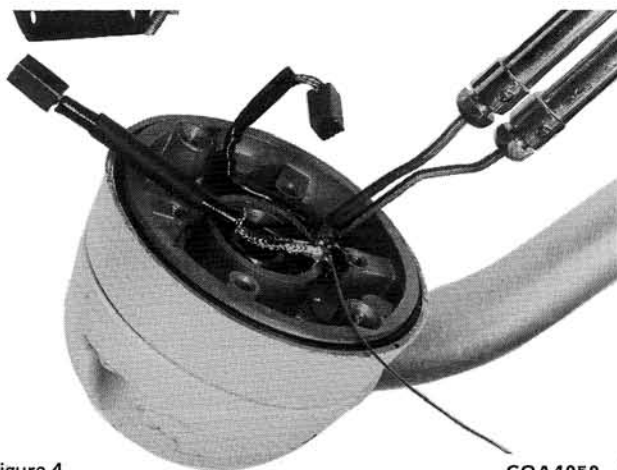

Figure 4
7. Insert lead from commutator head into new lead. Tighten new lead over lead from commutator and secure using rosin core solder. See Figure 4.